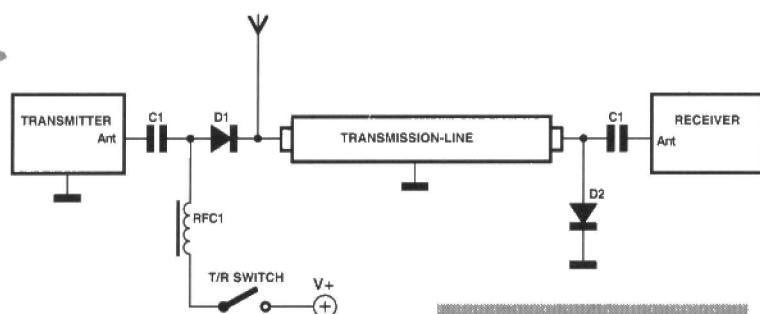

Figure 6. P-I-N diode T/R switching.
Another application is shown in **Figure 6**. Here we have a pair of p-i-n diodes used as a transmit-receive (TR) switch in a radio transmitter; models from low-h.f. to microwave use this technique. Where you see a so-called 'relayless TR switch', it is almost certain that a p-i-n diode network such as **Figure 6** is in use. When switch S_1 is open, diodes D_1 and D_2 are unbiased, so present a high impedance to the signal. Diode D_1 is in series with the transmitter signal, so blocks it from reaching the antenna; diode D_2 , on the other hand, is across the receiver input so does not attenuate the receiver input signal at all. But when switch S_1 is closed, the opposite